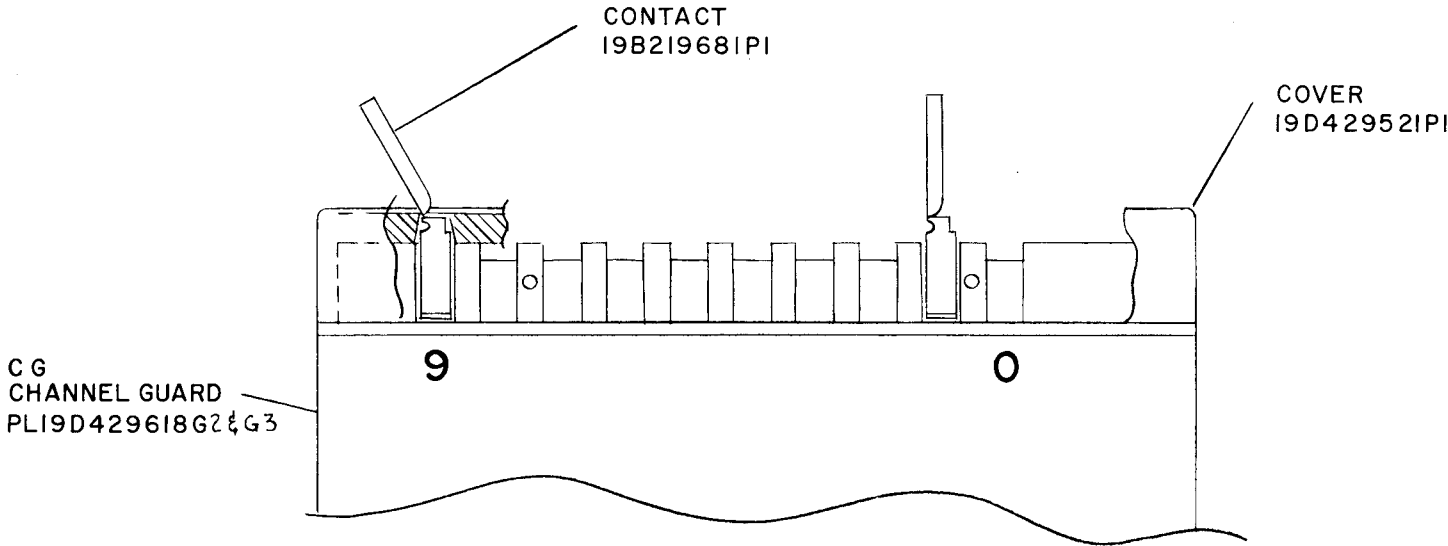

FIG. 1
- 1. INSTALL CONTACT PINS (19B219681), PER FIG. 1, IN POSITIONS INDICATED BY "X" IN CHART 1, WHICH AGREES WITH DESIRED CG FREQ. (NOTE - EXAMPLE SHOWN FOR 127.3Hz).